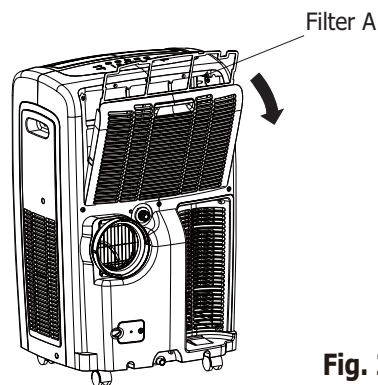

Fig. 25
- This unit has three filters, they are filter A, B and C. Grasp the upper panel tab and take off the filter A which is behind the grill of the back panel (Fig.25). Remove the lower filter B and C by loosening the screws. Take down the air inlet grille, then remove the air filter as shown in Fig.26 & 27.